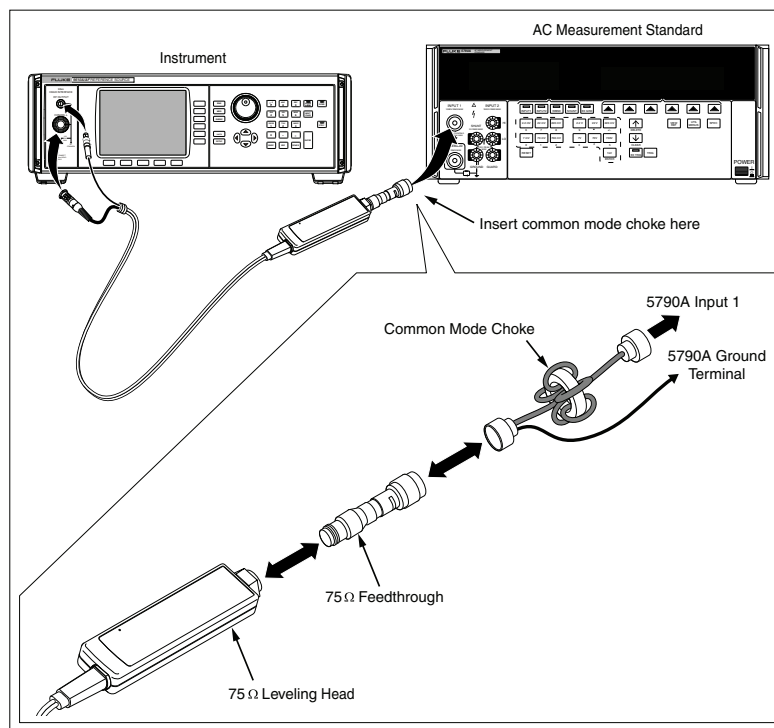

Figure 5-9. Equipment Connections - Level Accuracy Tests (75 Ω), Low Frequency Points
1. Connect the 75 Ω Leveling Head to the INPUT 1 connector on the AC Measurement Standard using a precision 75 Ω feedthrough termination. (If a Type-N feedthrough termination is not available, use a BNC 75 Ω feedthrough termination and appropriate adapters. Ensure that BNC connector contact resistance and repeatability does not significantly degrade measurement uncertainty) Select INPUT 1. See Figure 5-9 for equipment connections.